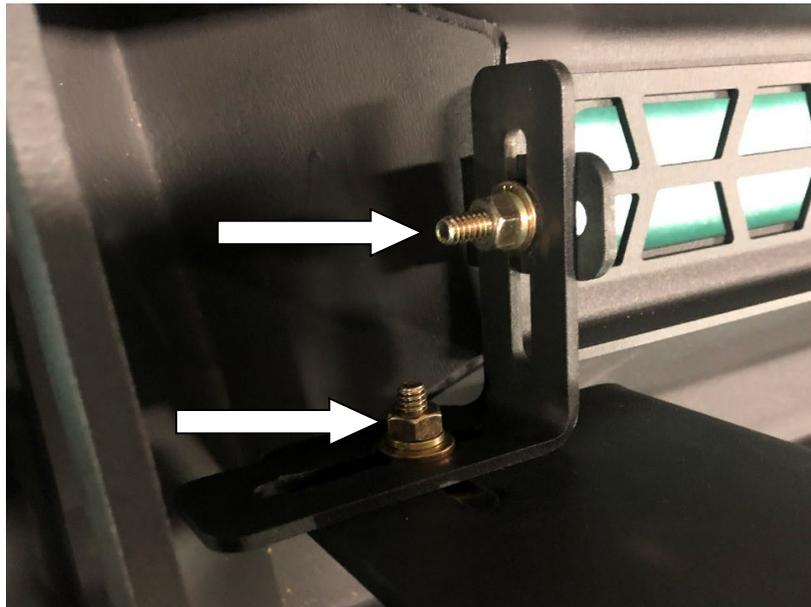

Figure 6
7. Use the provided $\frac{1}{4}$ " hex head bolts, flat washers and lock washers to install the two (2) L-brackets (22353) and the mesh (22353). (Fig 6)